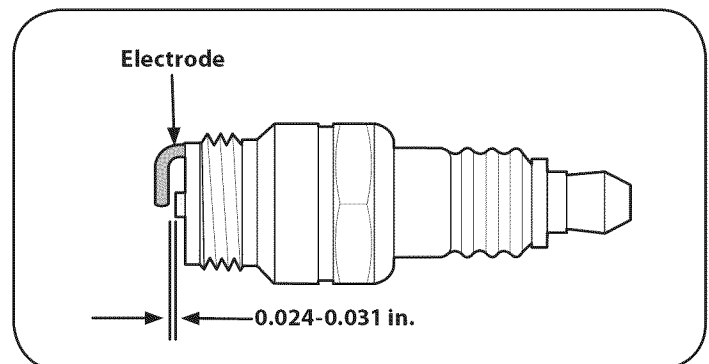

Figure 14
2. Remove and inspect the spark plug. Check gap to make sure it is set at .030". See Figure 14.